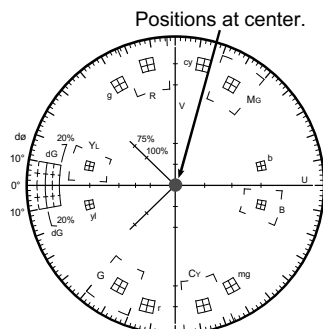

Fig. 4-23
- Adjust data with the **ARROW** keys so that the vector positions at the center of the Vectorscope as shown in Fig. 4-23.